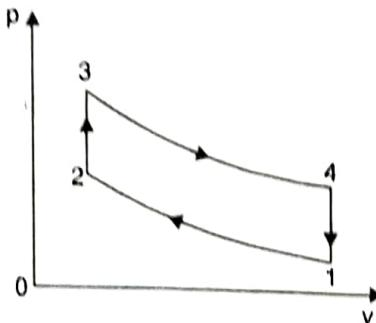

Fig. 1.11 Cyclic process.
1. Cyclic Process: In a cyclic process, the system undergoes through a series of processes from one state and ends with the same initial state by forming a complete cycle so that the properties of the system at the end of the cycle are the same as at the beginning. A cyclic process is shown in Fig. 1.11 on $p-v$ diagram.